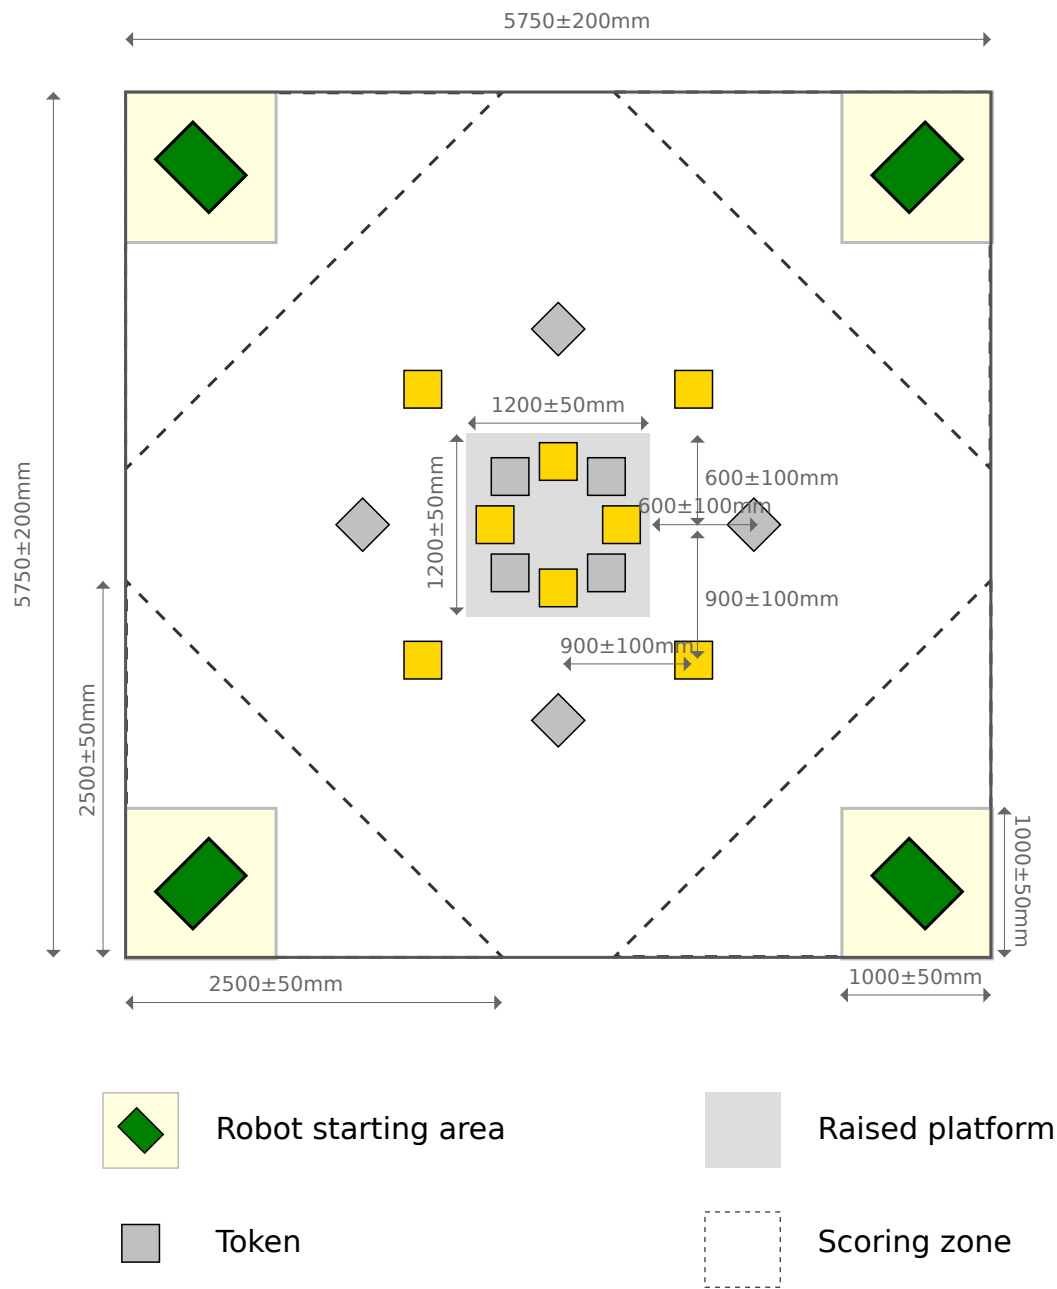

Figure 2: A bird's-eye view of the arena. All dimensions are in millimetres.
3.3.1 The match arena floor, overall, is an  $5.75m \times 5.75m$  square, as shown in figure 2. The tolerance of these two dimensions is  $\pm 0.2m$ .
- 3.4.1 The four scoring zones form right-angled triangles, with the right angle described by the corner of the arena and the short sides of length  $2500mm \pm 50mm$ . The arrangement and dimensions of these zones can be seen in figure 2.
- 3.5.2 Tokens will be arranged as shown in figure 2 at the start of a match.